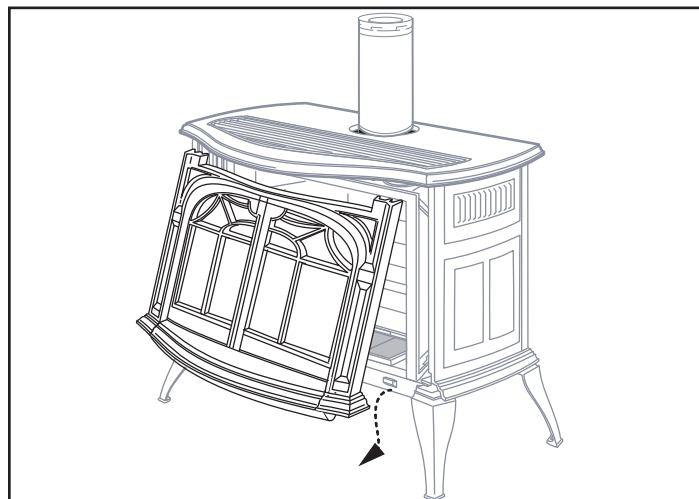

Figure 5.1 - Remove the stove front.
It will be necessary to clean the glass periodically. During start-up, condensation, which is normal, forms on the inside of the glass and causes lint, dust and other airborne particles to cling to the glass surface. Also initial paint curing may deposit a slight film on the glass. It is therefore recommended that the glass be cleaned two or three times with a non-ammonia household cleaner and warm water (we recommend gas stove glass cleaner). Allow the glass to cool completely before attempting to clean. To access the glass, remove the front and glass frame, Figures 5.1 and 5.2. After that the glass should be cleaned two or three times during each heating season depending on the circumstances present.
Replace glass only with HHT approved parts. Refer to Section 7 "Service Parts List" for correct glass. Remove the front, glass frame and glass panel, Figures 5.1 & 5.2. Use a razor blade to separate the glass and gasket from the frame.
1. Remove the front, glass frame and glass panel, Figures 5.1 & 5.2. To remove the old gasket, use a razor blade to separate the glass and gasket from the frame, and to clean the glass of any remaining cement or bits of gasket. Use a cold chisel if necessary.